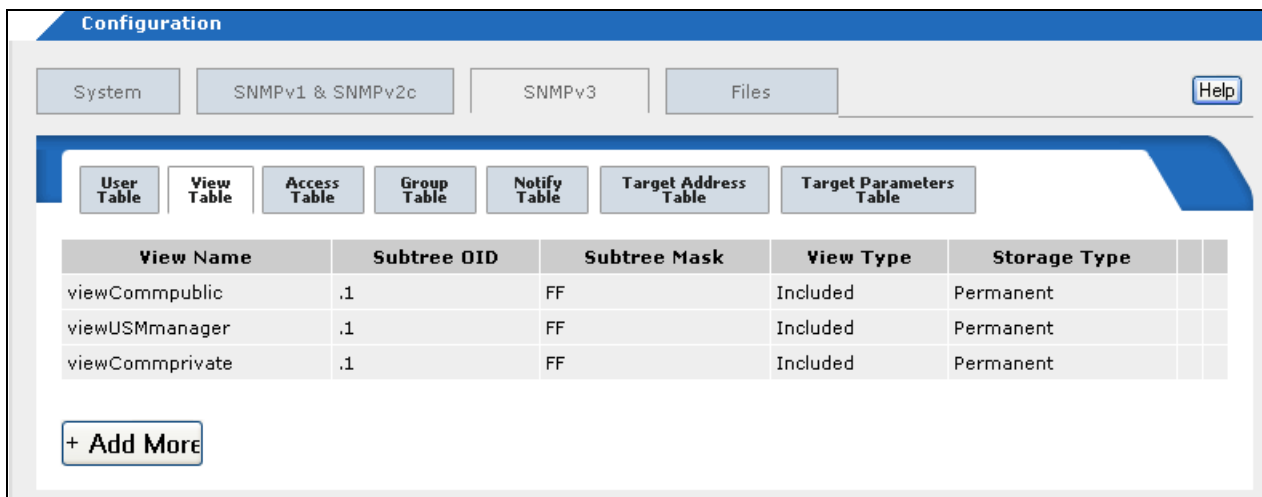

Figure 127. SNMPv3 View Table Tab
- ❑ :Click the **Configuration** button in the menu bar and then select the **SNMPv3** tab and the **View Table** tab. The SNMPv3 View Table tab is shown in Figure 127.